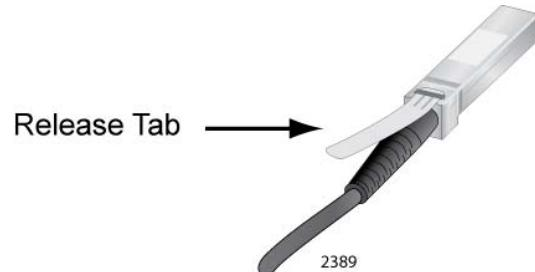

Figure 91. Release Tab on the AT-SBx81XS6 Line Card
2. Orient the connector on the AT-SP10TW cable so that the release tab is on top, as shown in Figure 91.